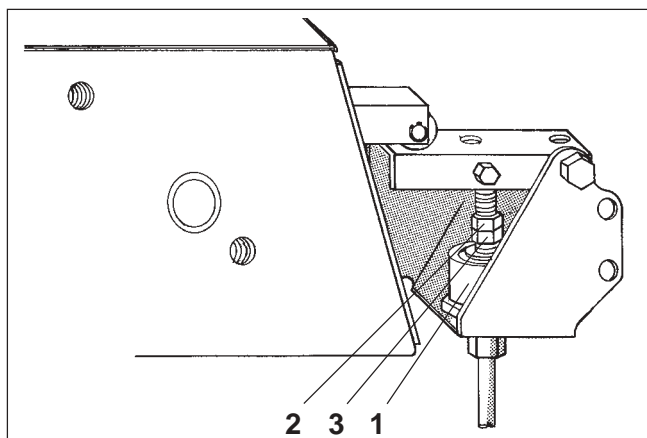

Fig. 26.21
If the hydraulic ram (Fig. 26.21/1) does not switch over the switch box, the following settings should be conducted:
- Apply hydraulic pressure from the tractor cab to the hydr. ram (Fig. 26.21/1) .
- Slacken counter nut (Fig. 26.21/2)
- Turn hex. nut (Fig. 26.21/3) to the left hand (counter clockwise) until the switch box audibly switches over
- Turn hex. nut (Fig. 26.21/3) two further complete turns and retighten counter nut